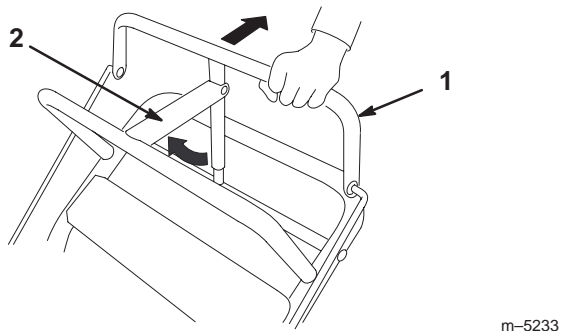

Figure 36
2. Set the parking brake (Fig. 36).